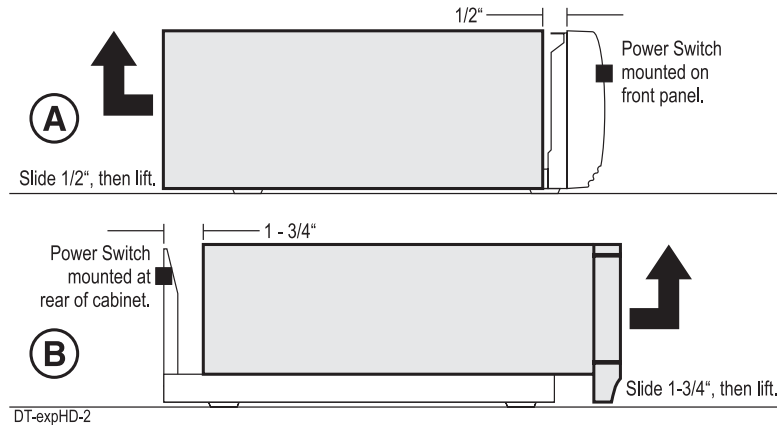

Figure 2
- If the power switch on your cabinet is mounted anywhere on the front panel, slide the cover 1/2 inch towards the rear of the cabinet and lift up. See Figure 2 (A).
- If the power switch on your cabinet is mounted on the rear of the cabinet (above the power supply fan vent), slide the cover/front panel assembly 1 3/4 inches towards the front of the cabinet, and lift up. See Figure 2 (B).